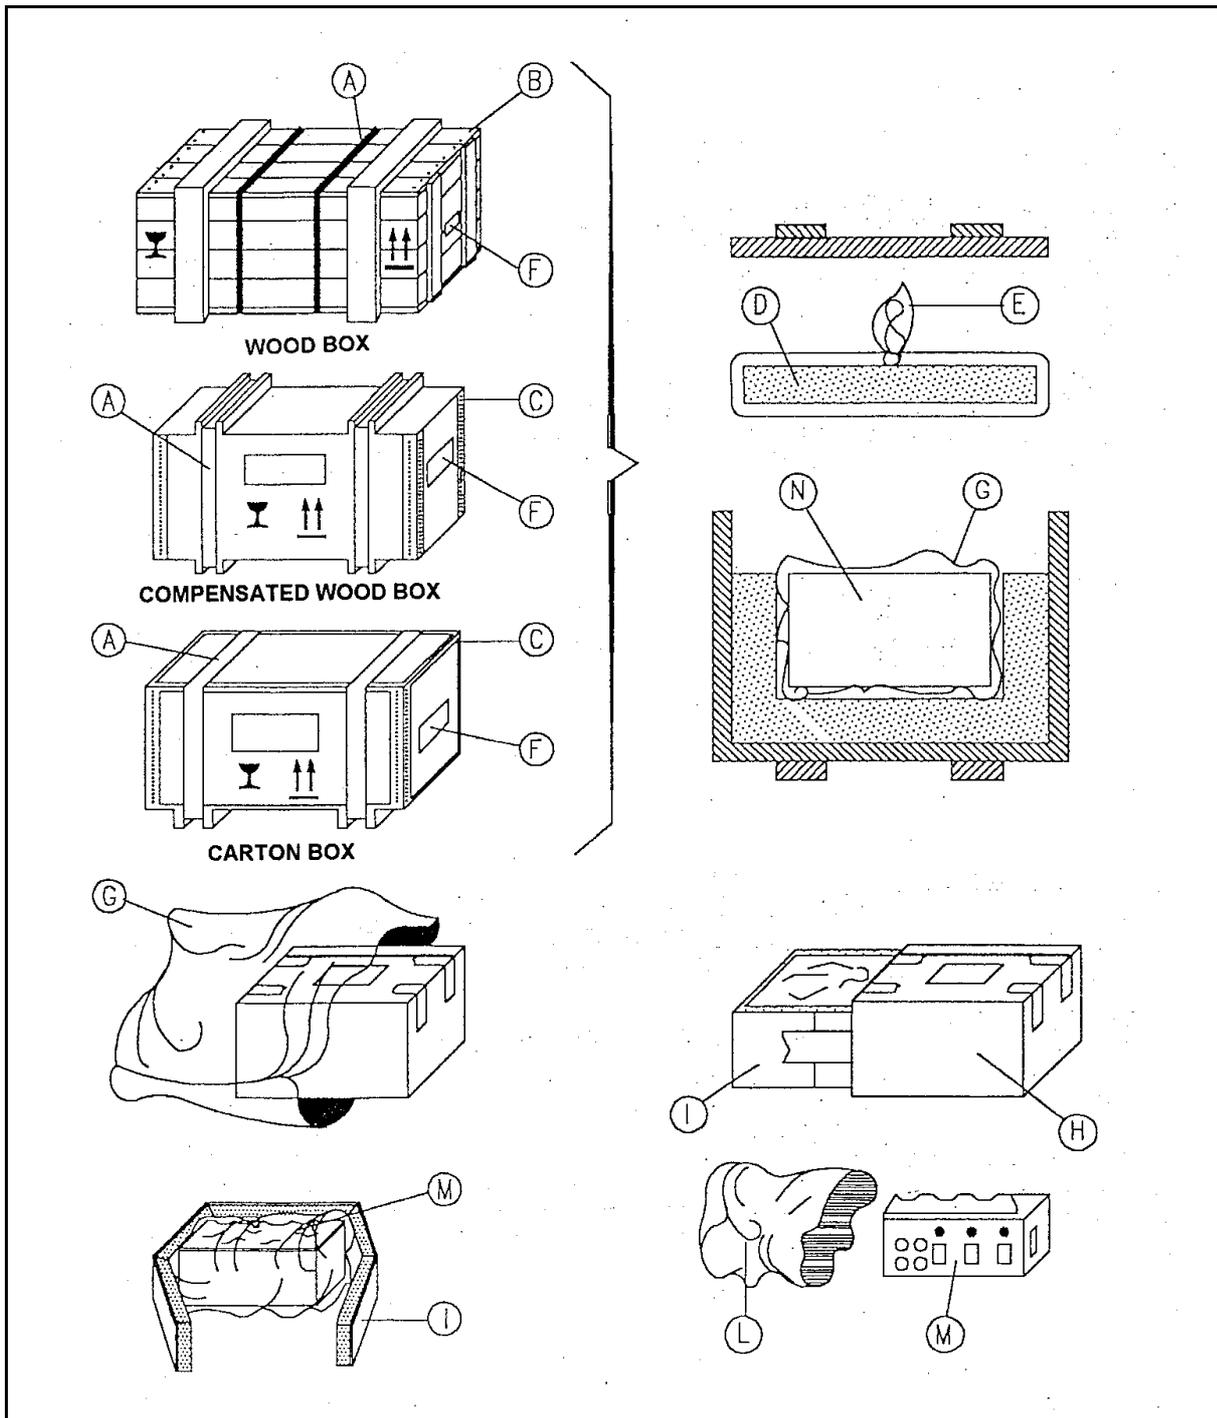

FIGURE 1 – RACK UNPACKING PROCEDURE
The packing sheet inserted in a plastic bag, see detail (F) in figure 1, lists the materials inside the container.
(Refer to figure 1).